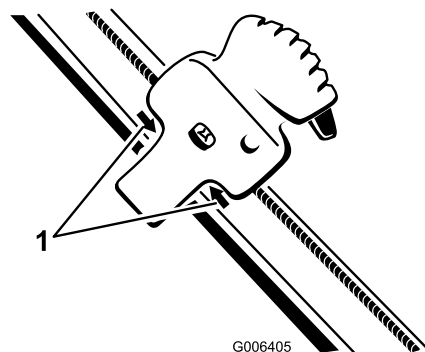

Figure 41
2. Position the Quick Shoot control between the 2 arrows located on the right side of the upper handle (Figure 41).